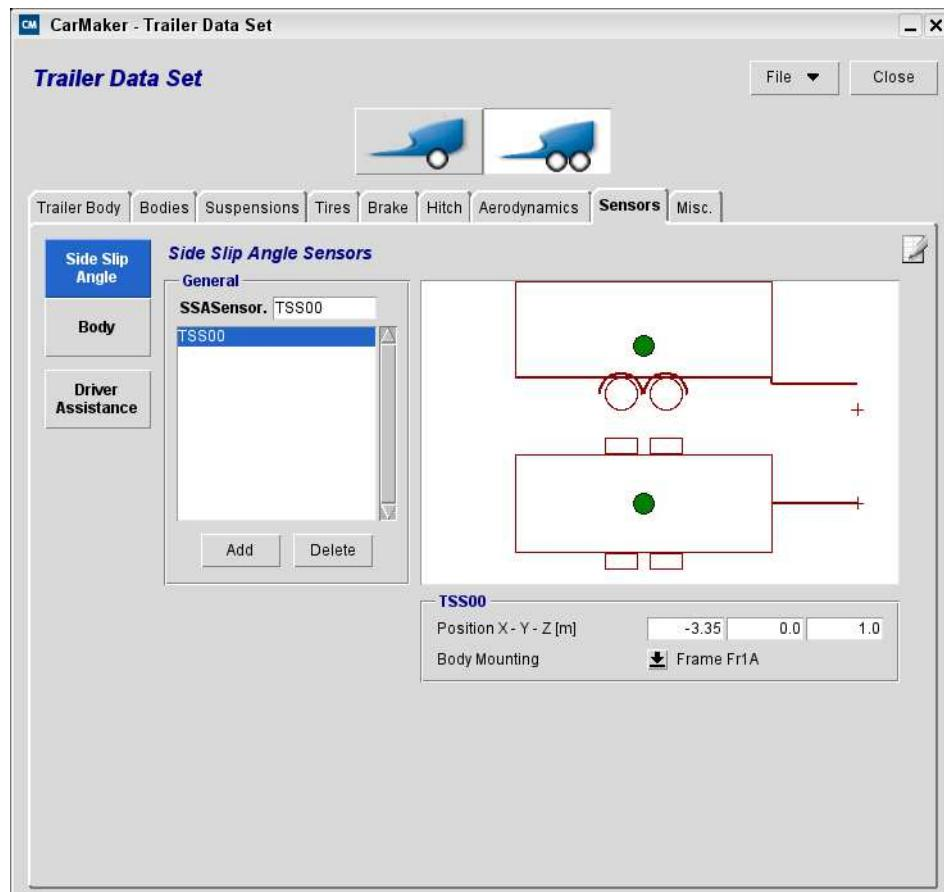

Figure 5.135: Definition of *Side Slip Angle Sensors*
- SSASensor.** Here you can enter a name for the current sensor, to alleviate the identification of the sensor quantities, e.g. in IPGControl. All User Accessible Quantities of this sensor will start with the prefix `Car.SSASensor.Name.*`. In the example in Figure 5.135, the UAQs of this sensor will start with `Car.SSASensor.A00.*`.